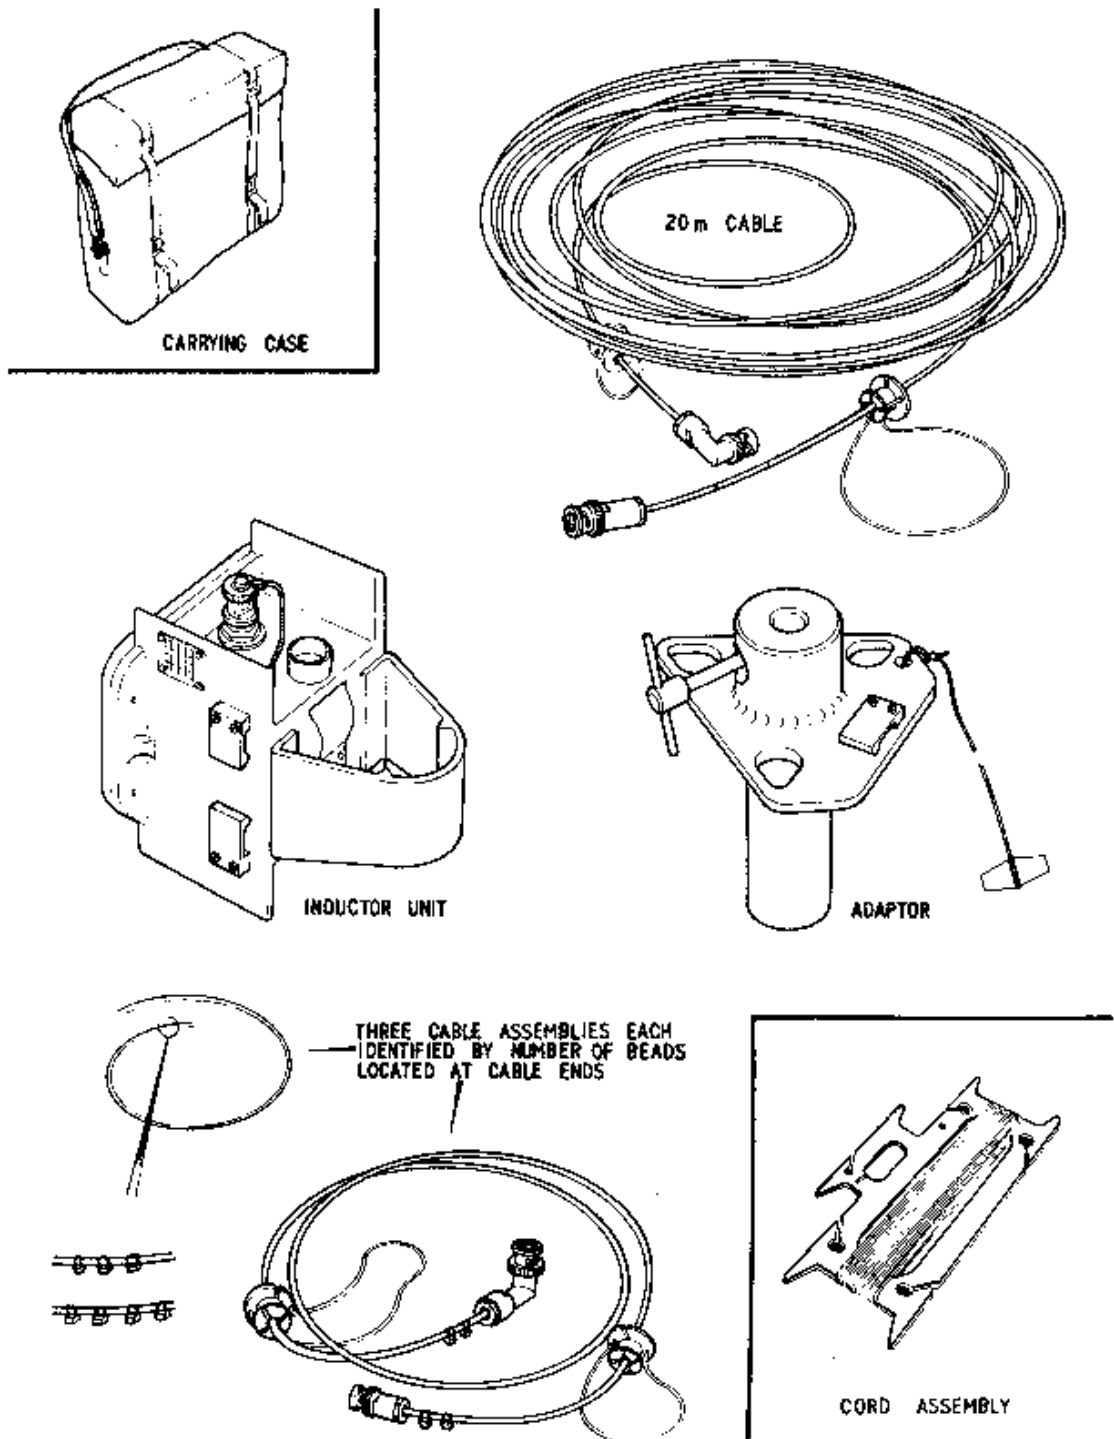
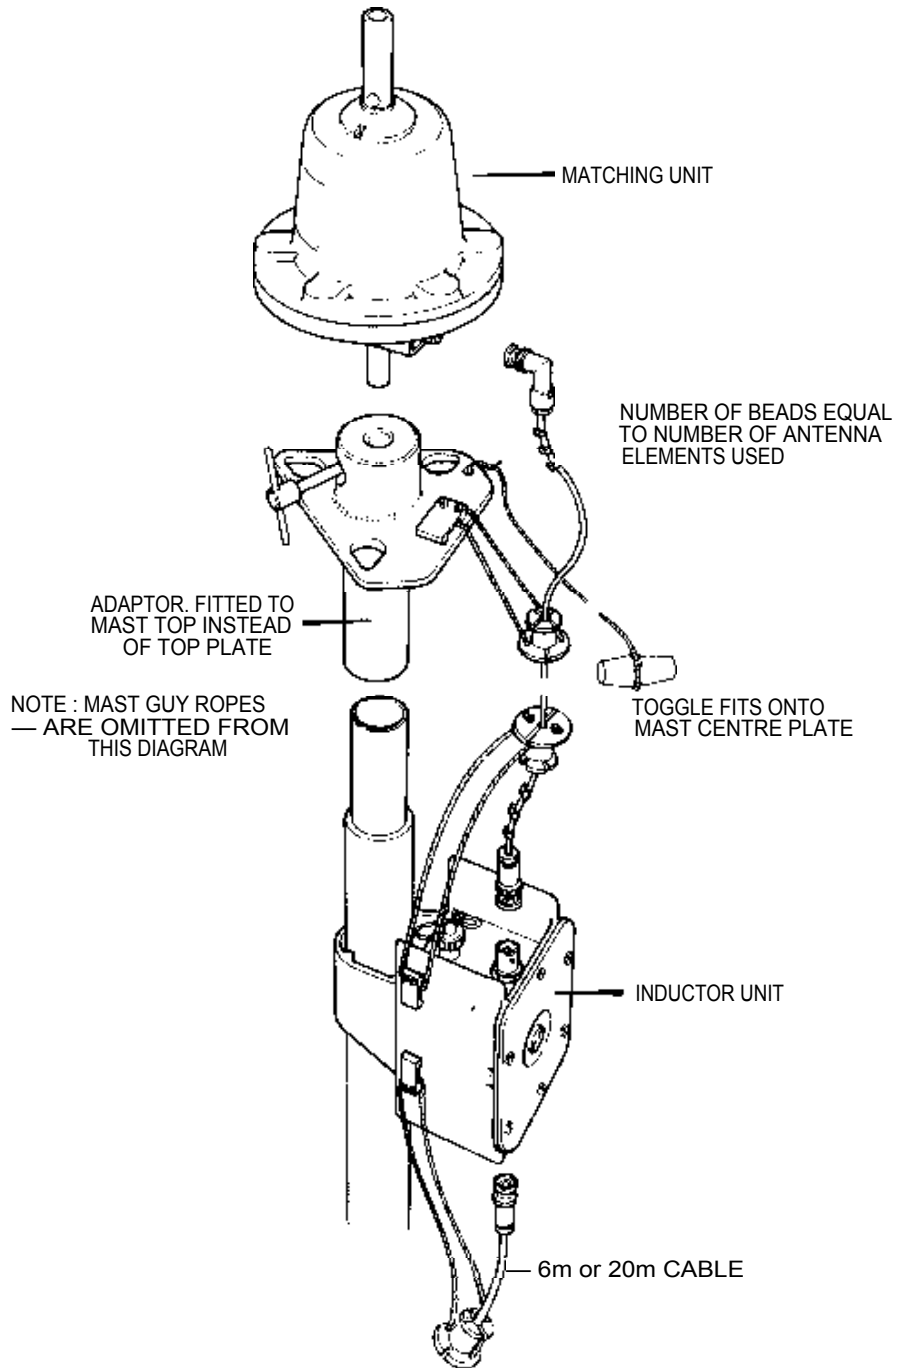

Fig 24 Items Forming Elevated Kit
Fig 25a Assembly to top of 5.4m Mast
- 2. The kit provides an adaptor to enable the antenna to be fitted to the top of a 5.4m mast (NATO code no. 5820-99-621-9027), three lengths of cable for lower elements, an inductor unit arranged to attach to the mast and a 20m cable to connect the inductor to the radio in case the 6m cable supplied with the antenna is not long enough (Fig.24 refers).
7. Assemble the elevated kit (Fig.24) to the 5.4m mast as follows (Fig.25a); remove each item from the relevant carrying case only when the item is required.